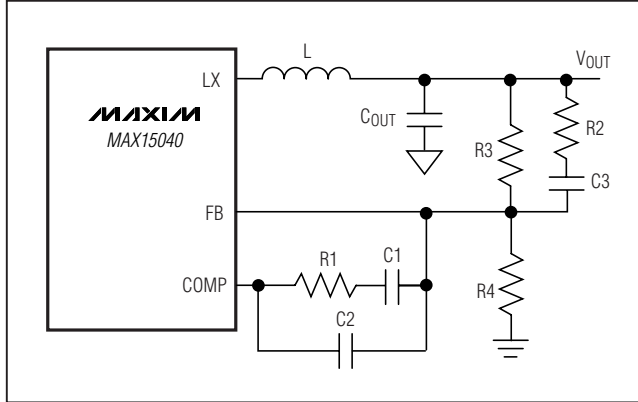
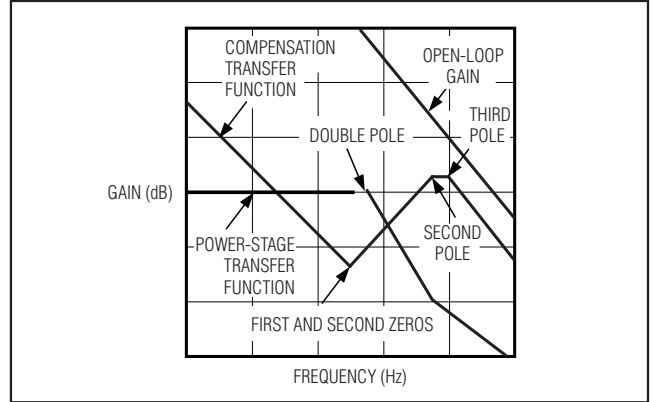

Figure 4. Type III Compensation Network
Figure 5. Type III Compensation Illustration
The MAX15040 high switching frequency allows the use of ceramic output capacitors. Since the ESR of ceramic capacitors is typically very low, the frequency of the associated transfer function zero is higher than the unity-gain crossover frequency, f_C , and the zero cannot be used to compensate for the double pole created by the output inductor and capacitor. The double pole produces a gain drop of 40dB/decade and a phase shift of 180°. The compensation network must compensate for this gain drop and phase shift to achieve a stable high-bandwidth closed-loop system. Therefore, use type III compensation as shown in Figure 4 and Figure 5. Type III compensation possesses three poles and two zeros with the first pole, f_{P1_EA} , located at zero frequency (DC). Locations of other poles and zeros of the type III compensation are given by: